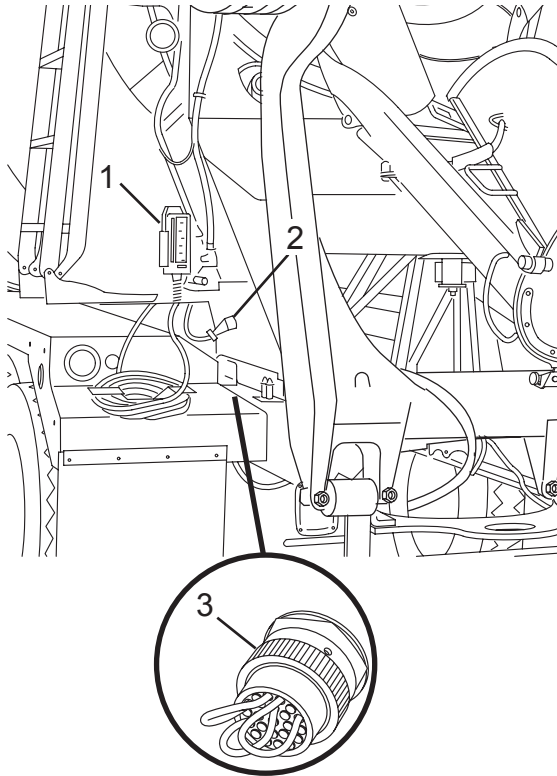

Figure 56
2. Disconnect the rear pendant harness connector (Figure 56, Item 2) from the rear pedestal.
3. Install a jumper plug (Figure 56, Item 3) into the rear pendant harness connector. Purchase the jumper plug from www.streetSMARTparts.com or by calling Revolution Parts at (855) 202-6491.
If the rear pendant (Figure 56, Item 1) is lost, or becomes damaged or faulty, a jumper plug (Figure 56, Item 3) must be installed in the rear pendant socket to allow operation of control functions from the cab control box.